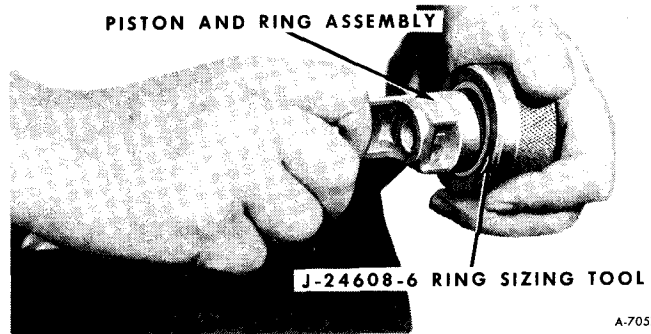

Figure 119—Turning Piston and Ring Assembly into Sizing Tool
6. Lubricate the piston ring area with 525 viscosity refrigerant oil and rotate the piston and ring assembly into the Ring Sizer J-24608-6 at a slight angle (figure 119). Rotate the piston, while pushing inward, until the piston is inserted against the center stop of the Ring Sizer J-23608-6.
turns, until the assembly rotates relatively free in the ring sizer (figure 119).